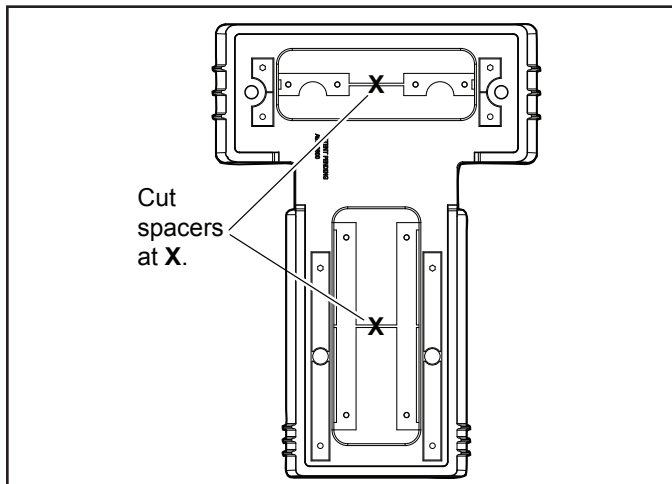

Figure 4. Cut Sets of Spacers Out of Base
- Using a hand cutter tool, cut the plastic bars connecting the top and bottom sets of spacers, as shown in Figure 4.
- Push the two (2) top spacers and two (2) bottom spacers out of the base.